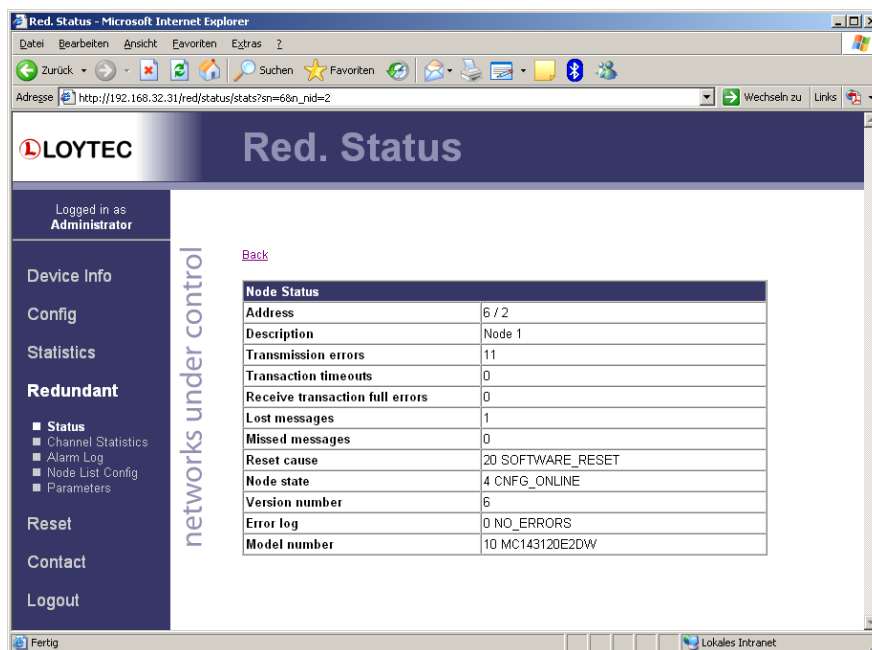

Figure 105: The L-IP Redundant Web Interface – Device Statistics Page
- ◆ For each node in the “Node Monitor Details” table, which is responding over the network, a “Stats” button is present. This button allows to view the node statistics of the remote node (see Figure 105).